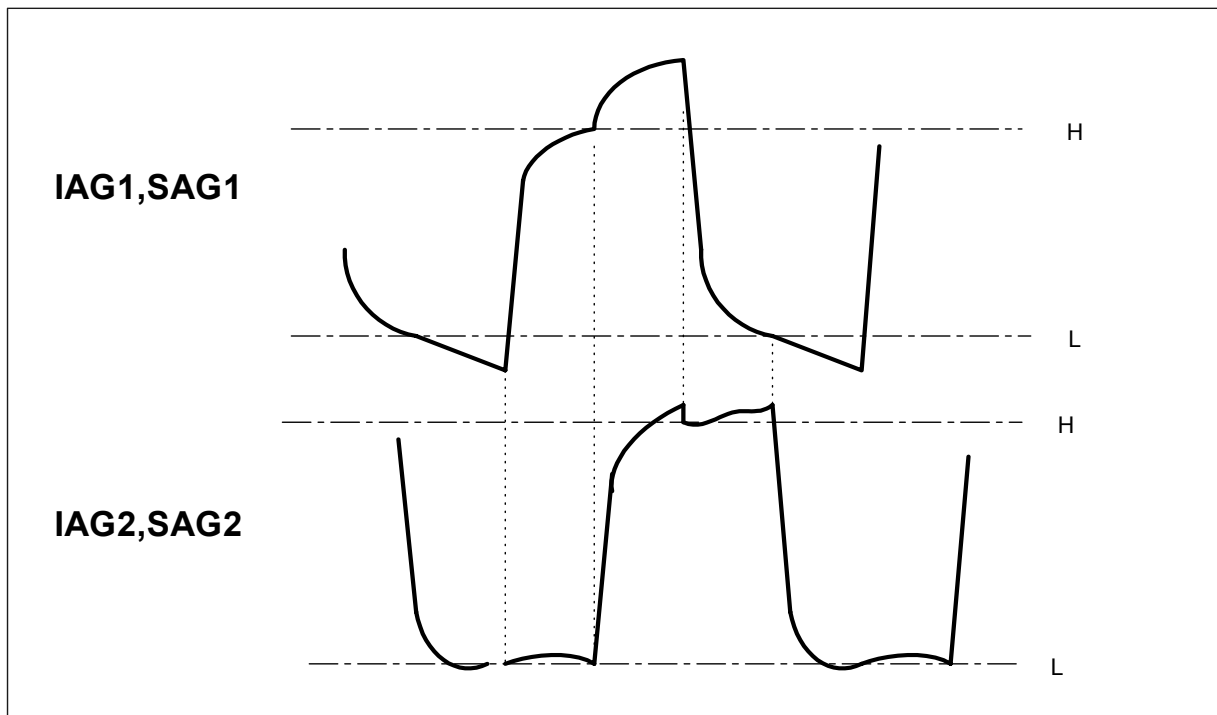

FIGURE 6. An example of parallel transfer waveform by typical driver circuit
- *** Refer to Figure 6 for a description of the waveforms applied to IAG and SAG by typical driver circuits operated at the H and L voltage settings specified in these recommended operating conditions.